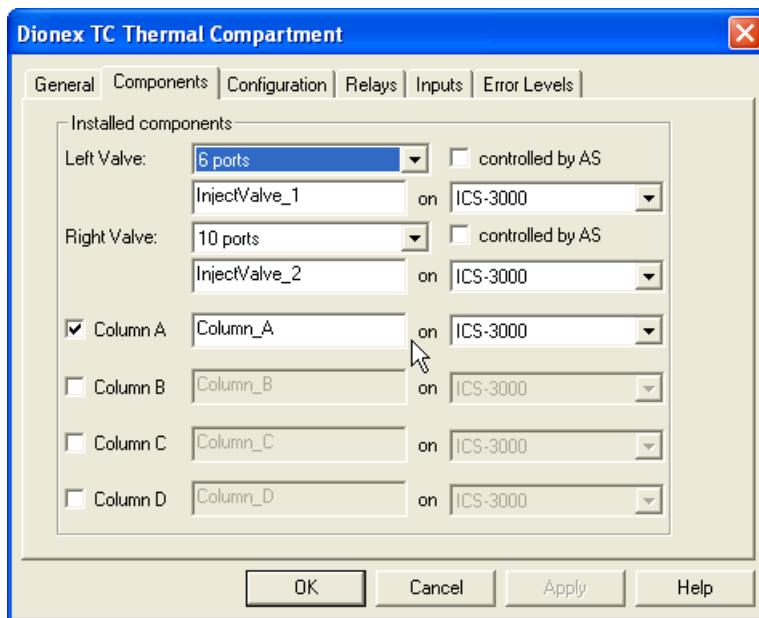

Figure 9-42. TC Properties Dialog Box: Components Tab Page
3. In the TC Properties dialog box, select the **Components** tab to display the **Components** tab page (see Figure 9-42).